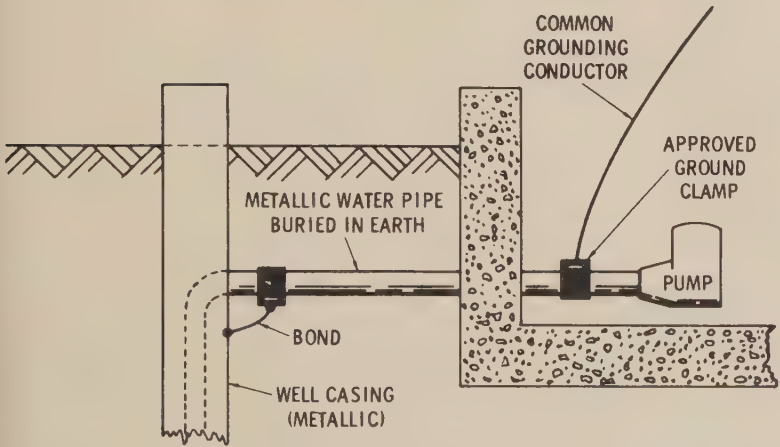

Fig. 28. Buried metallic water pipe bonded to a well casing and used as a grounding electrode.
- (6) Attachment to water pipes shall be accessible if at all possible.
- (7) If the water supply is from a well on the premises, the point of attachment shall be as close as possible to the well, with the casing bonded to the water piping. See Fig. 28.